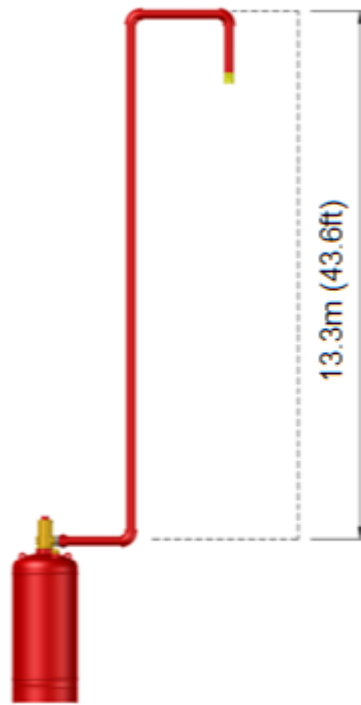

Figure 34 Nozzles Located Above the Cylinder Outlet
- In the event that the discharge nozzles located above the cylinder outlet, the maximum elevation difference between the cylinder outlet and the farthest horizontal pipe run or discharge nozzle (which is furthest) shall not exceed 13.3 m (43.65 ft). Refer to Figure 34.